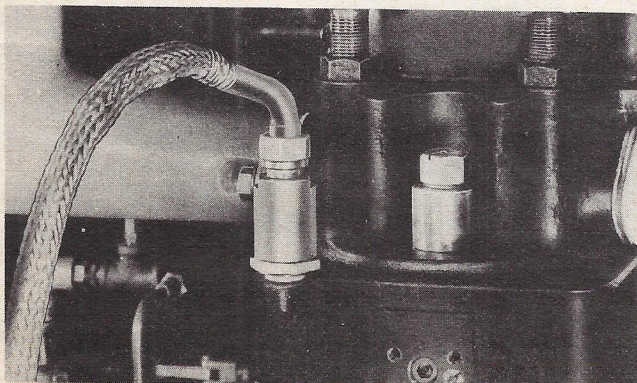

Figure 3 - Pick-Up Installed
(1) The PICK-UP, mounted on an engine cylinder, to detect vibrations caused by detonation and transform these vibrations into voltage signals. (See figure 3.)